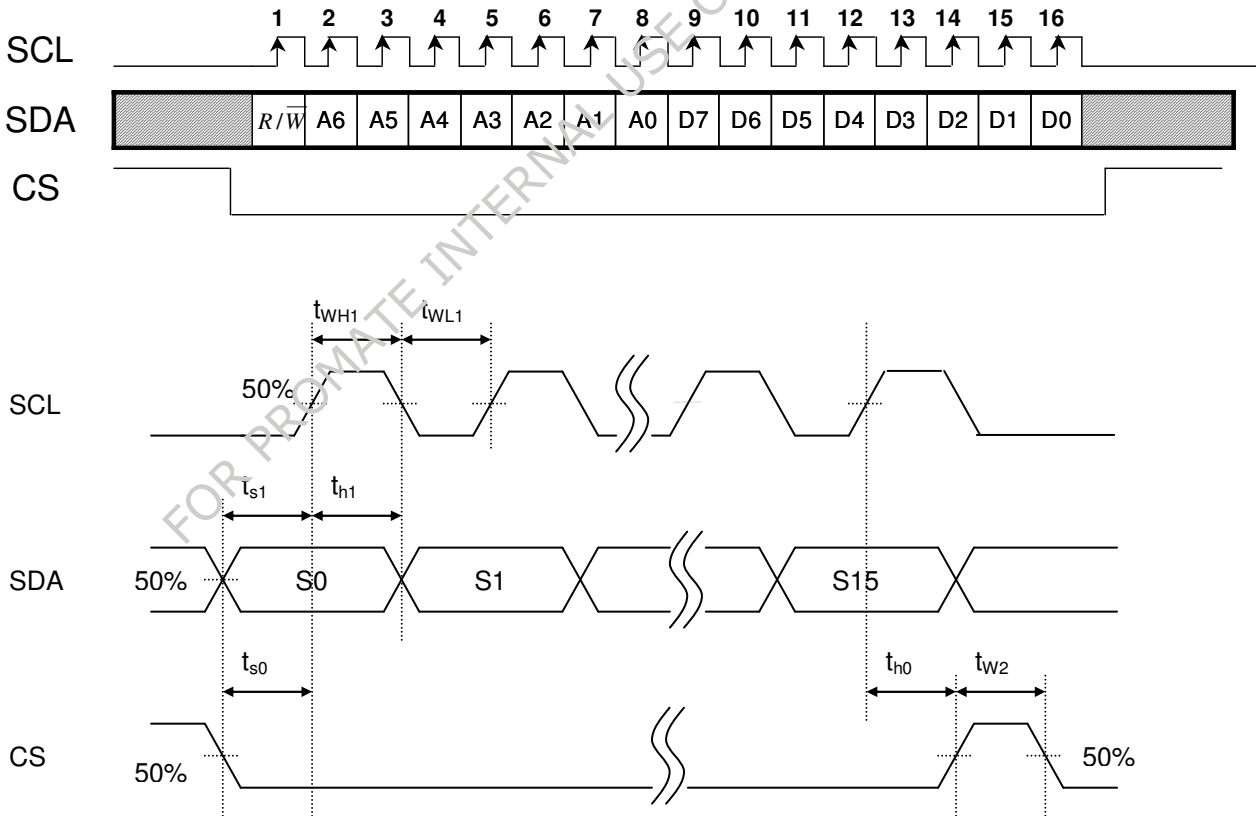

Fig.1 Serial Interface Control Timing
a. Input timing specifications (refer to Fig. 1)